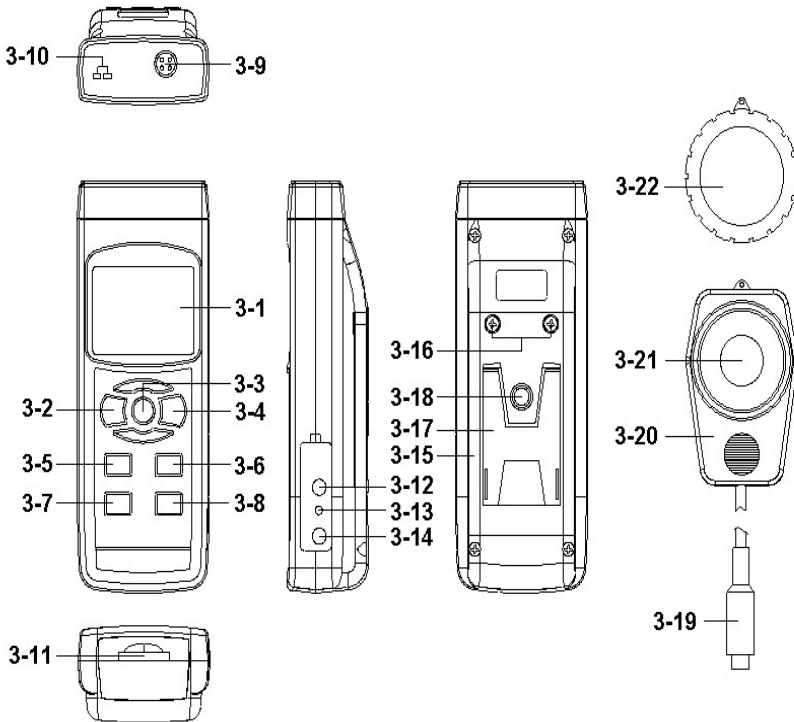

Fig. 1
1) Power on the meter by pressing the " Power button " ( 3-2, Fig. 1 ) > 3 seconds continuously.
Pressing the " Function Button " ( 3-6, Fig. 1 ) > 3 seconds ( not release the button ), the Display will show the following text in sequence :
Until the Display show the desired mode ( Function ), just release the " Function Button " ( 3-6, Fig. 1 ), the meter will execute this function with default.
- a. Install the " Probe Plug " ( 3-19, Fig. 1 ) into the " Probe Input Socket " ( 3-9, Fig. 1 ).
- b. Power on the meter by pressing the " Power Button " ( 3-2, Fig. 1 ). The display will show the " LUX " ( Ft-cd ) unit Now the meter is ready for make the measurement.
- c. Use the fingers to hold the " Sensor Handle " ( 3-20 ), face the " Light Sensor " ( 3-21, Fig. 1 ) against to the measurement light source directly. The display will show the light measurement value.
- \* *If intend to change the Light unit ( LUX, Ft-cd ), press the Unit Button " ( 3-5, Fig. 1 ) > 3 seconds, the unit will change from LUX, Ft-cd in sequence, until the desired unit is present on the Display release the Unit Button ", the select unit will save into the memory with default.*
- \* ***During the normal Light measurement, if blank the Light Sensor ( 3-21, Fig. 1 ) by " Sensor Cover " ( 3-22, Fig. 1 ), the display not show zero value, press the " ▲ Button " ( 3-5, Fig. 1 ) and " ▼ Button " ( 3-6, Fig. 1 ) together > 3 seconds, Display will show zero value. Upon completion, remove the sensor cover.***
- b. Not install the LUX " Probe Plug " ( 3-19, Fig. 1 ) into the " Probe Input Socket " ( 3-9, Fig. 1 )
- c. Plug the Thermocouple Temp. Probe ( Type K Temp. probe or Type J Temp. probe, optional ) into " Type K/J Probe Input Socket " ( 3-10, Fig. 1 )
During the measurement, press the " Hold Button " ( 3-3, Fig. 1 ) once will hold the measured value & the LCD will display a " HOLD " symbol.
- 1) The data record function records the maximum and minimum readings. Press the " MAX/MIN Button " ( 3-4, Fig. 1 ) once to start the Data Record function and there will be a " REC " symbol on the display.
- a) Press the " MAX/MIN Button " ( 3-4, Fig. 1 ) once, the " REC MAX " symbol along with the maximum value will appear on the display.
- b) Press the " MAX/MIN Button " ( 3-4, Fig. 1 ) again, the " REC MIN " symbol along with the minimum value will appear on the display.
- c) Press the " MAX/MIN Button " ( 3-4, Fig. 1 ) again, the the " MIN " symbol will be appeared, LCD only show the " REC " symbol, the meter start the Data Record function again.
- 3) To exit the memory record function, just press the " MAX/MIN Button " ( 3-4, Fig. 1 ) > 3 seconds continuously. The display will revert to the current reading.
- 1) After power ON, the " LCD Backlight " will light automatically. During the measurement, Push the " Backlight Button " ( 3-2, Fig. 1 ) once , will turn OFF the " LCD Backlight " .
Prepare a " SD memory card " ( 1 G to 16 G, optional ), insert the SD card into the " SD card socket " ( 3-11, Fig. 1). The front panel of the SD card should face against the the down case.
Press the " LOG Button ( 3-8, Fig. 1 ) > 3 seconds continuously, the lower LCD will show the text of " Log " then " REC " symbol will flashing per sampling time, at the same time the measuring data along the time information will be saved into the memory circuit.
During execute the Datalogger function, if press the " LOG Button " ( 3-8, Fig. 1 ) once will pause the Datalogger function ( stop to save the measuring data into the memory circuit temporally ). In the same time the the " REC " symbol will stop flashing, the lower LCD will show the text of " Log ".
*If press the " LOG Button " ( 3-8, Fig. 1 ) once again will execute the Datalogger again, the " REC " symbol will flashing.*
During execute the Datalogger function, press the " LOG Button ( 3-8, Fig. 1 ) > 3 seconds continuously again will finish the Datalooger function, the " Log " text will be disappeared and finish the Datalogger.
Press the " LOG Button ( 3-8, Fig. 1 ) > 3 second , the lower LCD will show the " Position no. " , then press the " LOG Button " ( 3-8, Fig. 1 ) once, the " REC " symbol will flashing once and Beeper will sound once, at the same time the measuring data along the time information will be saved into the memory circuit.
*During execute the Manual Datalogger, it can use the " ▲ Button " ( 3-5, Fig. 1 ) or " ▼ Button " ( 3-6, Fig. 1 ) to set the measuring position ( 1 to 99, for example room 1 to room 99 ) to identify the measurement location , the lower Display will show P x ( x = 1 to 99 ).
During execute the Datalogger function, press the " LOG Button ( 3-8, Fig. 1 ) > 3 seconds continuously again will finish the Datalogger function, the Position no. " PXX " will be disappeared and finish the Datalogger. function.